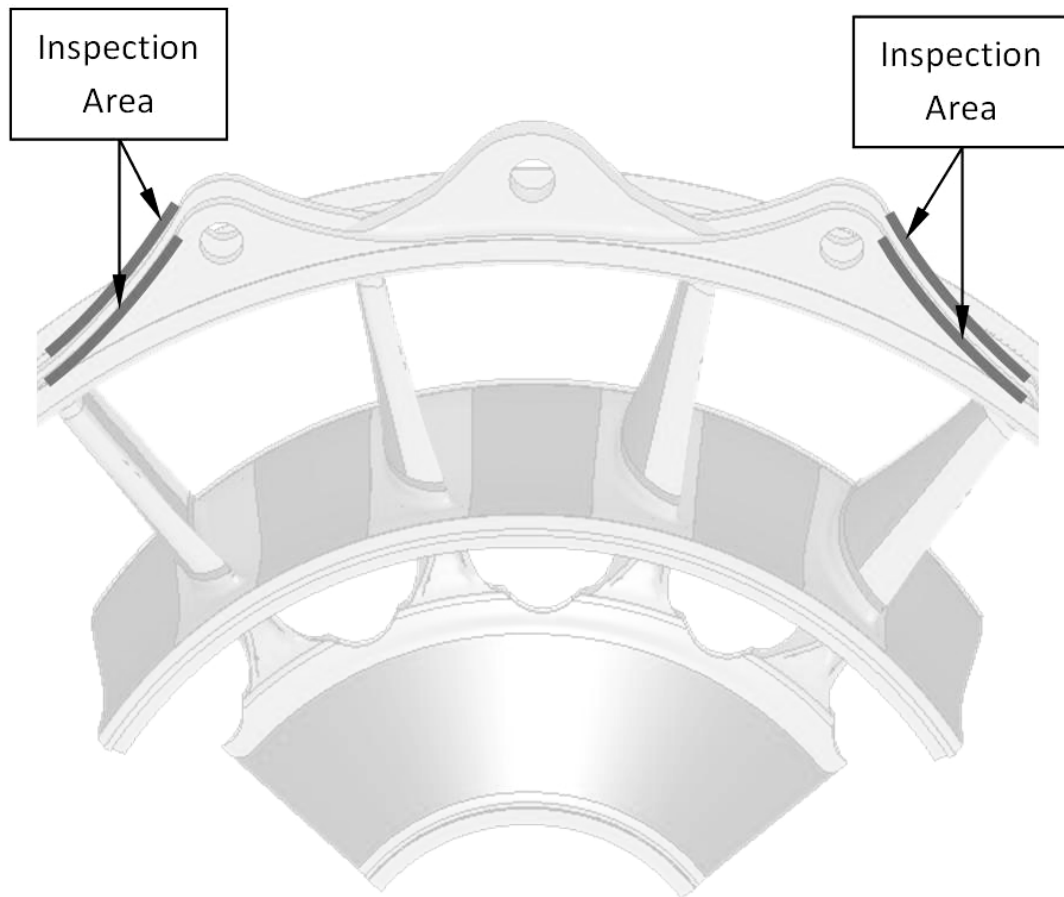

Figure 1 - Mount Lug Run Outs
- iv. Clean the inspection surfaces (see Figures 1 and 2) with the moistened cloth.
- vii. Penetrant Application - Apply OMat 651F – 1D3 Penetrant to the inspection areas (Figures 1 and 2) by brush or sponge applicator. The penetrant must be dispensed from a sealed aerosol can and any unused penetrant must go to waste.